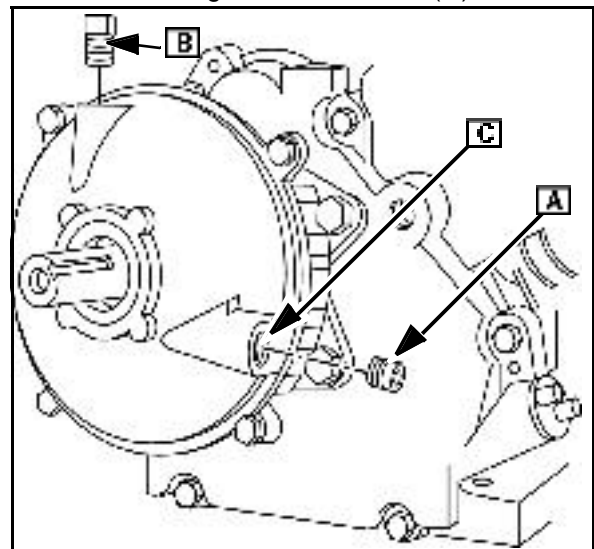

Fig. 30
1. To fill gear case, remove oil level plug (A) Fig. 30) and oil fill/vent plug (B).
3. Fill gear case just to the point of overflowing at the lower hole (C).